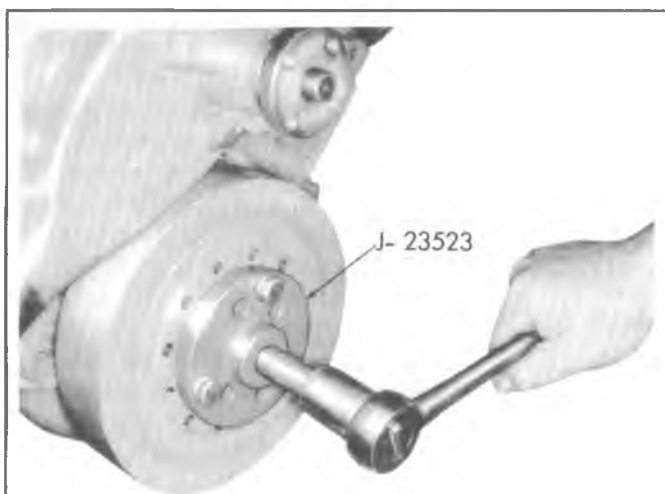

Fig. 6A1-21--Removing Torsional Damper
4. Install Tool J-23523 to damper and turn puller screw to remove damper (fig. 6A1-21).